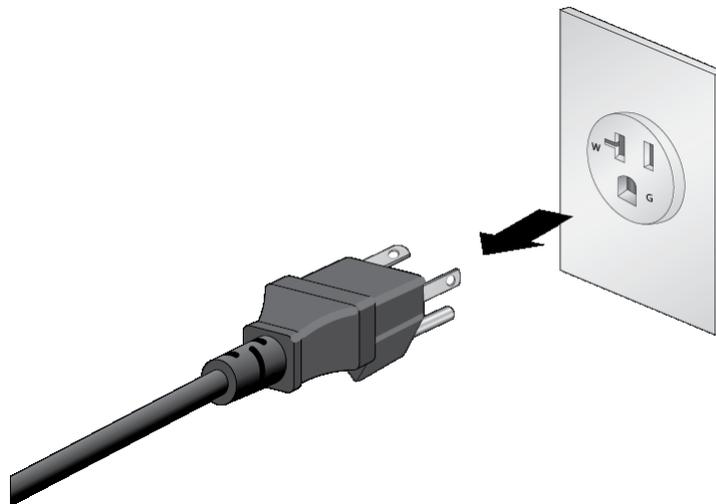

Figure 108. Disconnecting the AC Power Cord from the Power Source
1. Disconnect the AC power cord for the power supply from the AC power source. Refer to Figure 108.